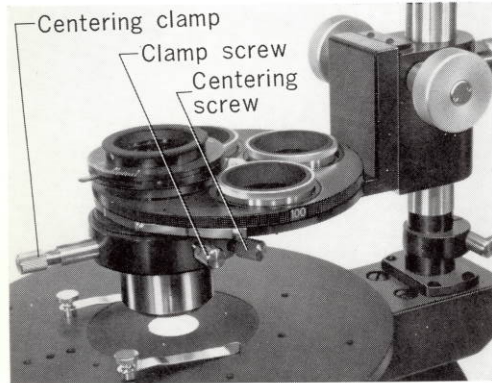

Fig. 17
- Then, open the condenser diaphragm, and observe the microscope image of a specimen placed on the stage. Close the collector diaphragm (illumination viewfield diaphragm), and release the centering screws of the condenser. Using two of the centering screws, bring the center of the collector diaphragm image to that of the viewfield. Fasten the centering clamp in this centered position. (Fig. 17)